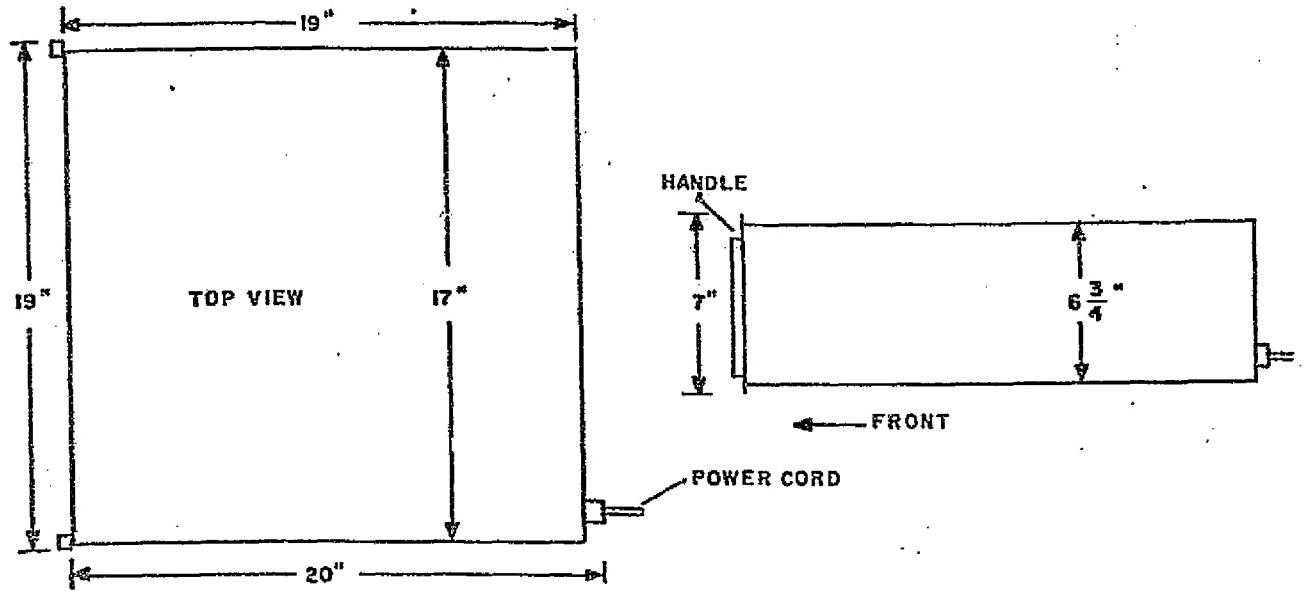

Figure 2-1. Installation Clearance
Refer to Figure 2-1 (Installation Clearance) for diagram.
2.1.2 Installation in Rack (Refer to Figures 2-1, 2-2)
Signal outputs and inputs are made through connectors located on the rear panel of the unit. Sufficient room should be allowed for external connections (refer to Figure 2-1 for installation clearances).